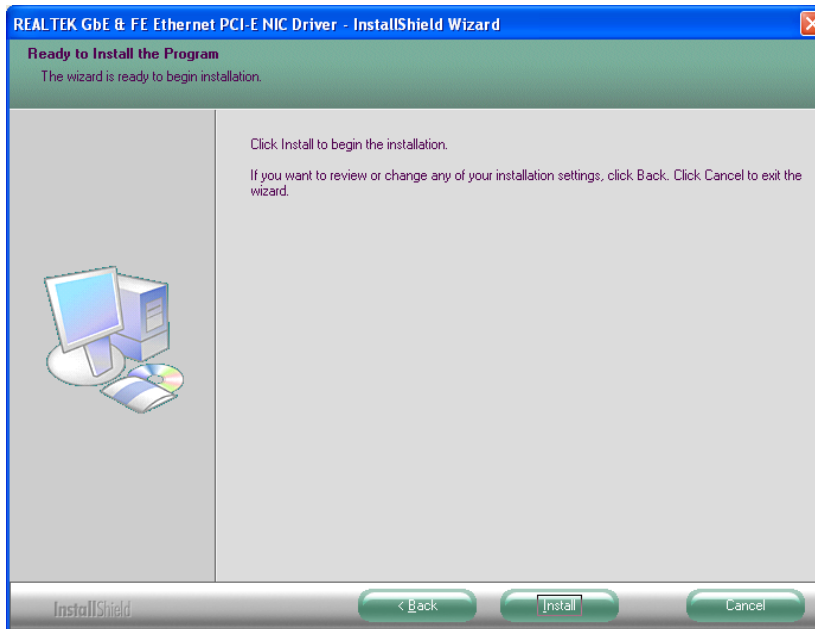

Figure 6-17: LAN Driver Installation
Step 5: The **Ready to Install** screen in **Figure 6-17** appears.